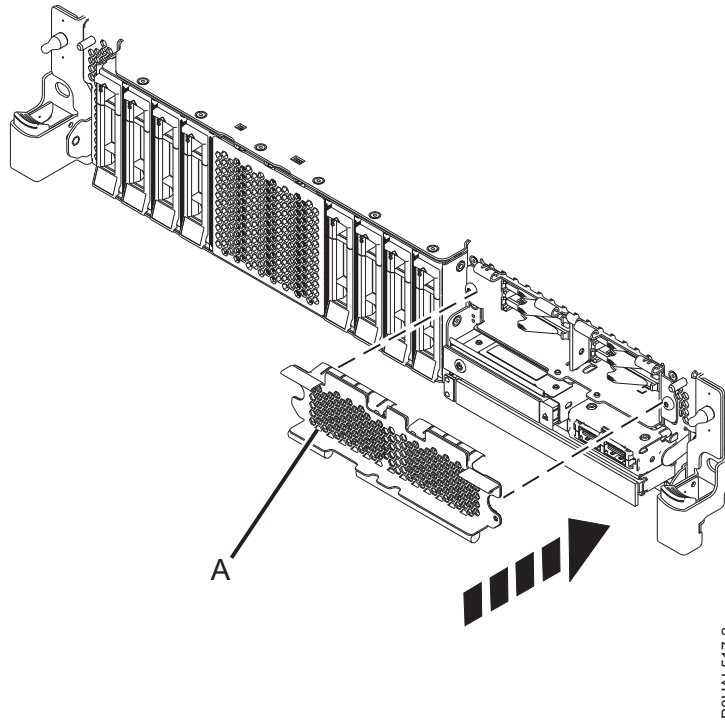

Figure 47. Covering the SSD cage in an expanded function system
3. If applicable, cover the SSD cage with the perforated plate (A) as shown in Figure 47 on page 48.